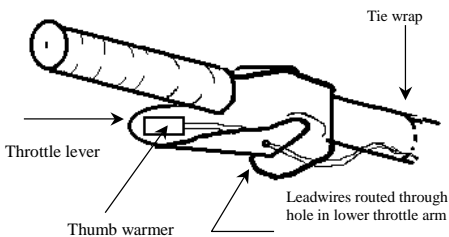

Figure 1: Throttle position
8. Clean the back of the thumb heater, and apply insulation patch over the back of the thumb heater. Use tie wrap to secure the wires to the handlebars. (shown in **Figure 1**)